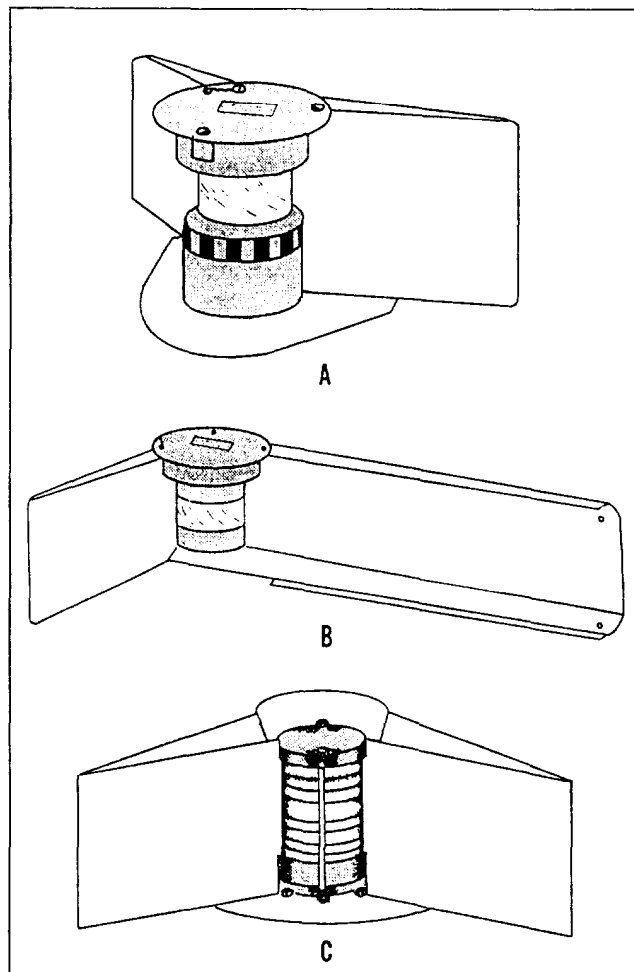

Figure 2-16.— Running lights.
Running lights of naval ships are similar to those used on merchant ships. They include the (1) masthead light, (2) second masthead light (range light), (3) port and starboard side lights, and (4) stem light (white). Some of these running lights are illustrated in figure 2-16.
The masthead light is a white light (fig. 2-16, view A) located on the foremast or in the forward part of the ship, between 6 and 12 meters above the deck. It has a spraytight fixture and is equipped with an inboard shield to show an unbroken light over an arc of the horizon of 225°; that is, from right ahead to 22.5° abaft the beam on either side.
Port and starboard side lights are 112 1/2° lights (fig. 2-16, view B) on the respective sides of the ship. They show red to port, green to starboard, and are invisible across the bow. The fixtures are spraytight, and each is equipped with an inboard screen arranged to throw the light from right ahead to 22.5° abaft the beam, port and starboard.
The stem light (blue) for ships is a 12-point (135°) light similar to the white stern light (fig. 2-16, view C) described previously. The light is installed near the stem on a ship that is engaged in convoy operations. It is mounted to show an unbroken arc of light from dead astern to 6 points on each side of the ship.